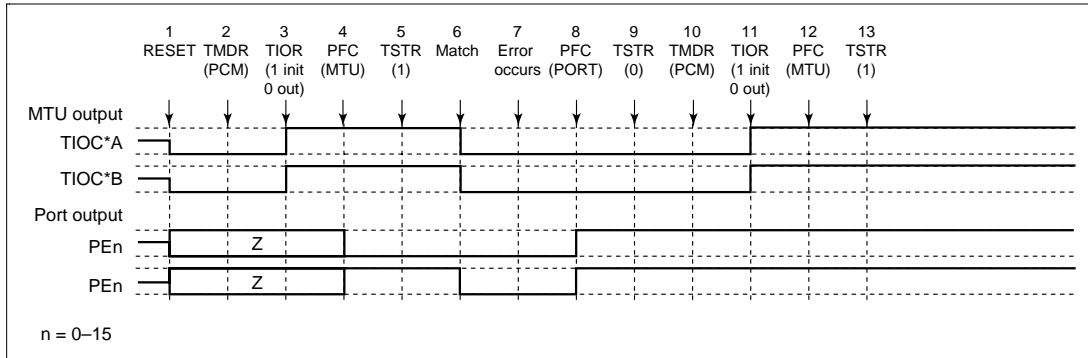

Figure 10.76 Error Occurrence in Phase Counting Mode, Recovery in Phase Counting Mode
(16) Operation when Error Occurs during Phase Counting Mode Operation, and Operation is Restarted in Phase Counting Mode: Figure 10.76 shows an explanatory diagram of the case where an error occurs in phase counting mode and operation is restarted in phase counting mode after re-setting.